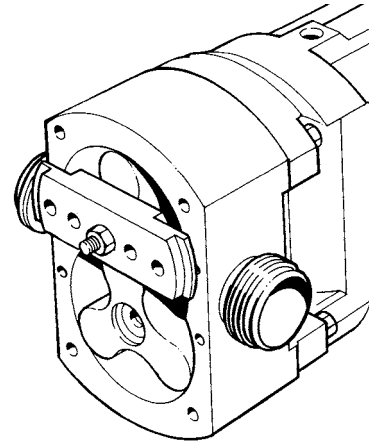

Figure 48
- Clamp one rotor (2.01) to shaft (5.01 or 5.02) using tool and associated stud and nut see Figure 48.
- Lubricate retainers' (53) with oil and install to shafts (5.01 and 5.02).
- Clamp one rotor (2.01) to shaft (5.01 or 5.02) using tool and associated stud and nut, see Figure 48, ensuring that two of the screws in retainer (2.05) are visible through holes in tool.